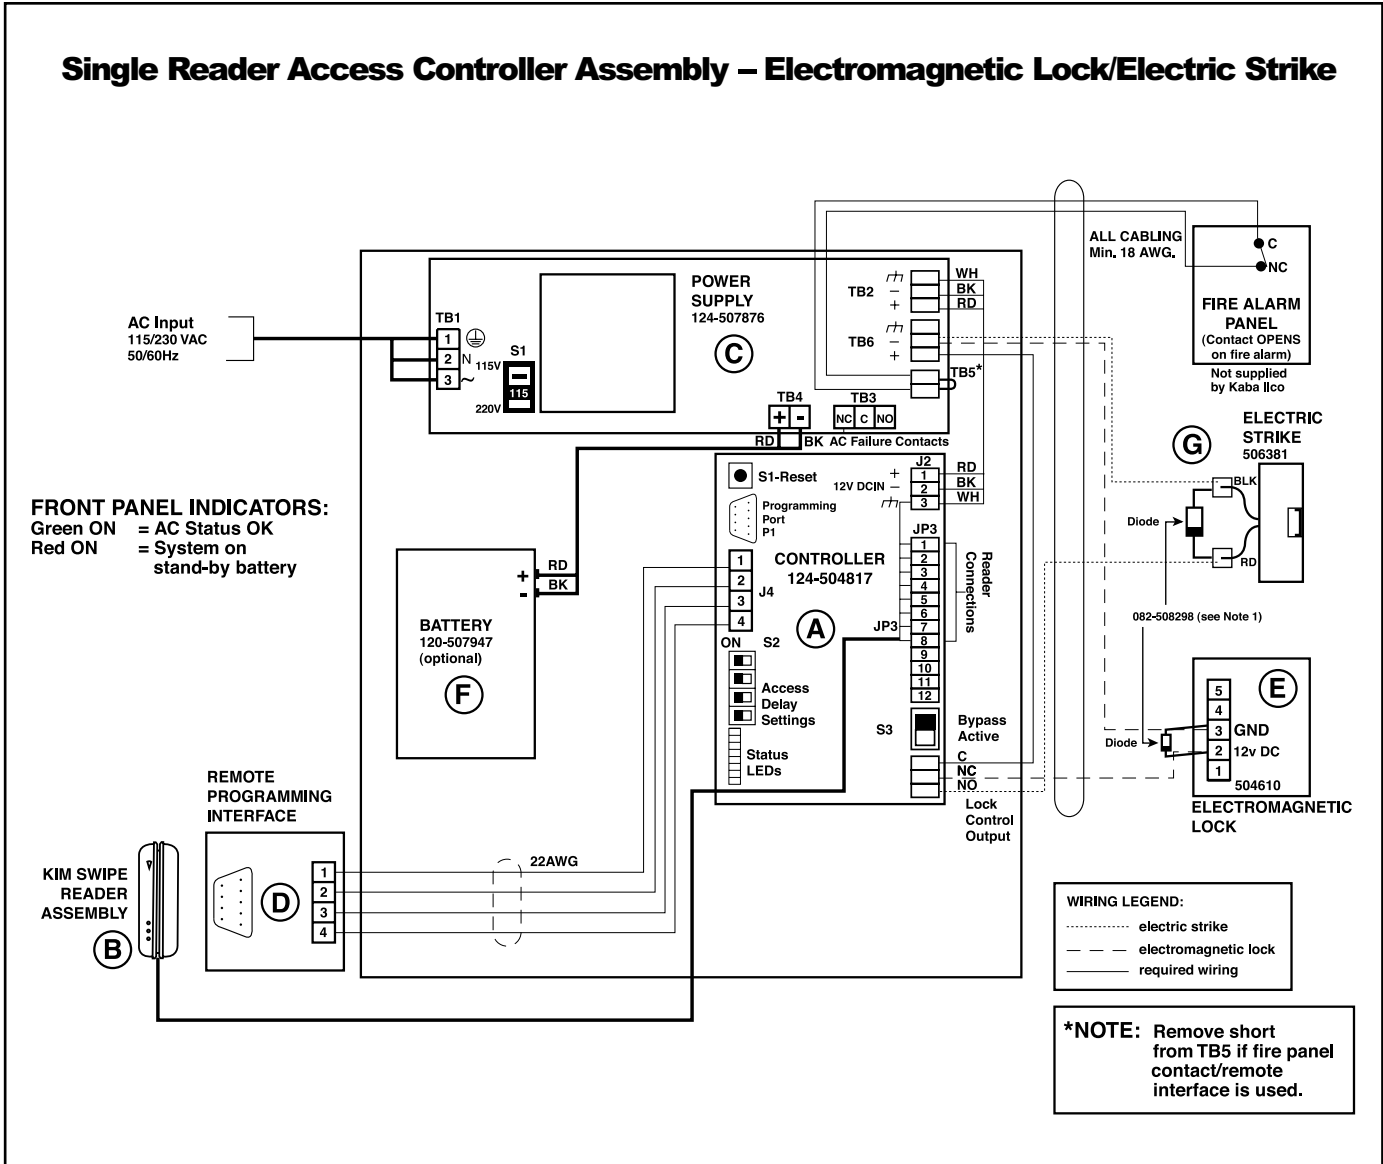
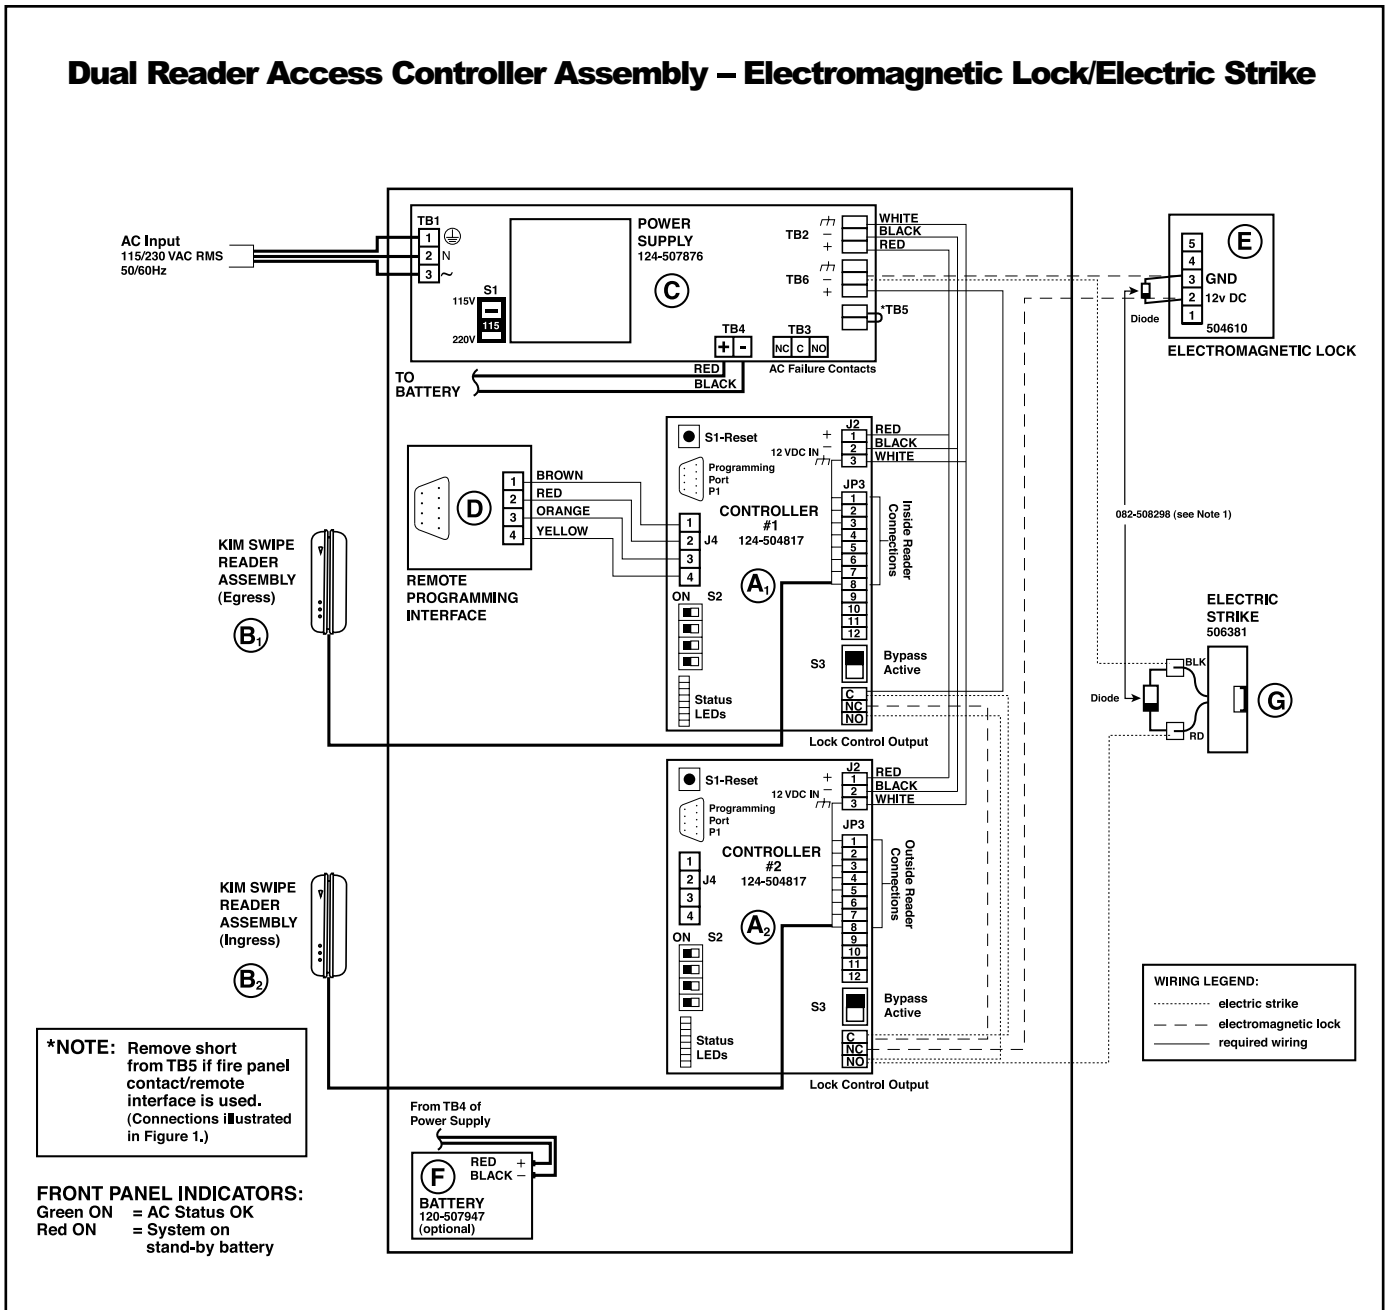
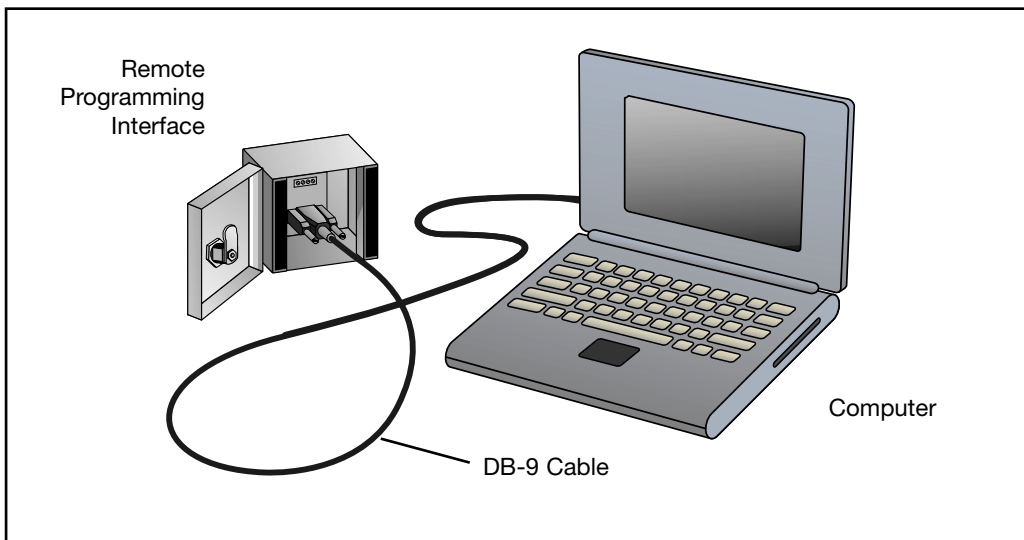

Figure 1
Figure 2
Figure 5. Programming the Card Reader using the Remote Programming Interface
- *For SINGLE Reader Installation, refer to Figure 1 on page 4.*
- *For DUAL Reader Installation, refer to Figure 2 on page 5.*
2. Set AC input switch S1 on the Power Supply (C) for the electrical voltage used in your country. North American applications require 115VAC, 60Hz; European applications require 230VAC, 50Hz. Insert appropriate fuse in F1 fuse clips: for North America, use 600mA, 5mm fuse, fast blow. For Europe, use 315mA, 5mm fuse, fast blow.
4. Install the KIM Swipe Reader Assembly (B) in the desired location. **Refer to appropriate fitting instructions for chrome reader or black reader, in Section 3.3 on page 3.** A Dual Reader installation has one Egress (exit) reader (B1) and one Ingress (entry) reader (B2).
5. Connect the AC line to terminal TB1 on the Power Supply (C) (see Table 5 on page 6).
6. Connect the shielded cable from the KIM Swipe Reader Assembly (B) to terminal block JP3 on the Controller (A). For connections, see Table 1. **For Dual Reader installations, connect the Egress reader (B1) to Controller #1 (A1) and the Ingress reader (B2) to Controller #2 (A2).**
7. If the Control Panel is not being interfaced to a fire alarm panel, go to step 8. Remove the jumper from terminal TB5 on the Power Supply (C) and complete the fire panel installation.
8. If an additional Remote Programming Interface (D) is not being installed, go to step 9. Run a twisted 2 pair stranded conductor, 22 AWG shielded cable from the Remote Programming Interface (D) to terminal block J4 on the Controller (A). For connections, see Table 2. **For Dual Reader installations, connect the Remote Programming Interface (RPI) (D) to Controller #1 (A1).**
9. Install the 2 conductor 18 AWG shielded cable from the control panel to the location of the electric strike (G) or electromagnetic lock (E).
17. Position bypass switch S3 on the Controller (A) down for normal mode. When power is supplied to the unit, the indicator light beside the switch should be OFF for normal mode and ON for bypass mode.
18. If a battery is being installed, mount the battery bracket in the control panel using 2 screws provided in the battery kit. The battery should be installed with the terminals facing the controller board and positioned closer to the power supply (see Figure 1). Connect the red wire from the TB4 terminal on the Power Supply (C) to the + red terminal on the Battery (F). Connect the black wire from the TB4 terminal on the Power Supply (C) to the - black terminal on the Battery (F). The battery will take 24 hours to fully charge.
1. Link the programming computer to the DB9 connector (J1) in the remote programming interface box, or to the DB9 connector (programming port P1) on the controller PCB in the control panel. Refer to Figure 1 or Figure 2 for the positions of the J1 and P1 connectors. Refer to Figure 4 or Figure 5 below for an illustration.